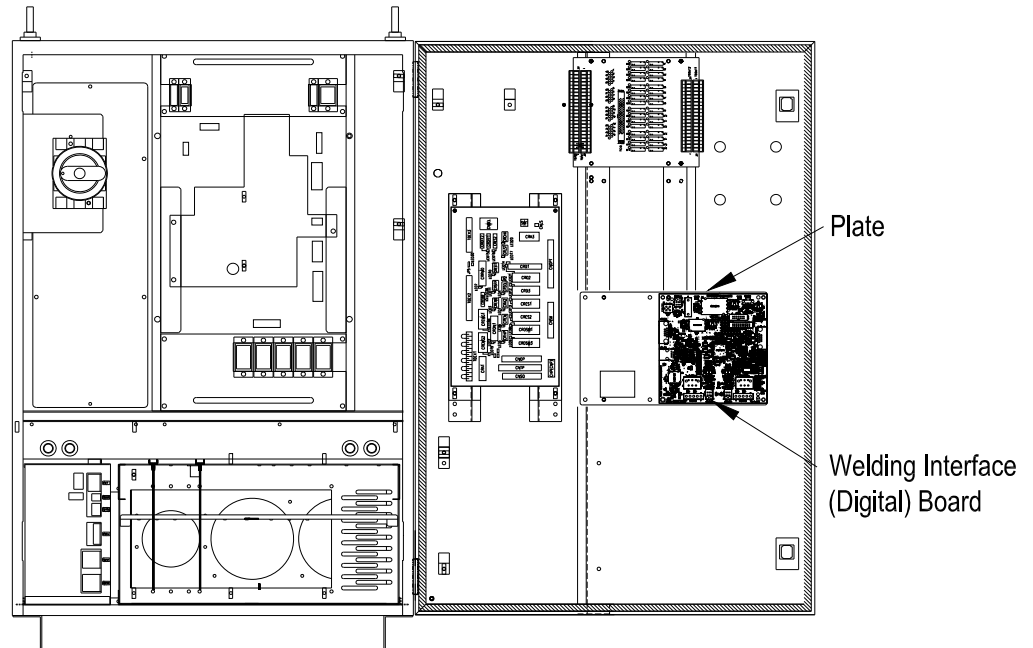

Figure 2.1.1 Installation Positions of the Welding Interface (Digital) Board
- 2 The Welding Interface (digital) board is fixed to the position shown in Figure 2.1.1 of the robot controller by the plate and the locking card spacer.